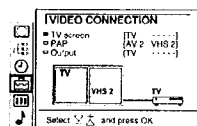

Fig. 50
- 1 Select the symbol  for «Video Connection» with Δ + or ∇ - and press OK. The VIDEO CONNECTION menu appears. (See Fig. 50)